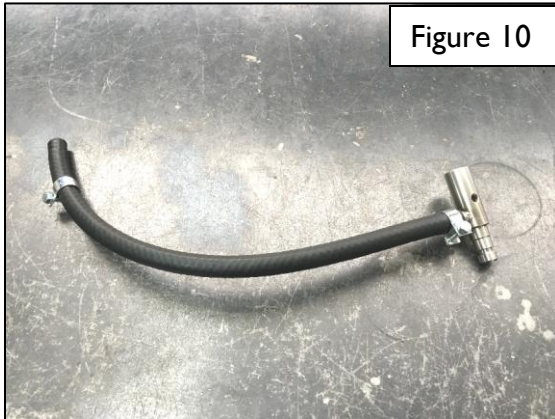

Figure 10
10. Transfer the O-ring to the groove on the Dinan Internal Hose Assembly #1, as shown on Figures 10 and 11.